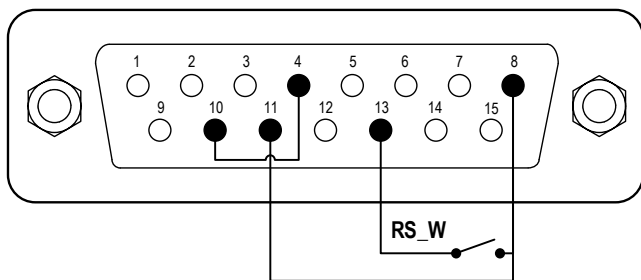

Figure 15. Logic Level Control with Internal 12V Power Source
- 1) Switch the power off. Wire the DB15 connector as shown on Figure 15 or Figure 16, and connect it to the DB15 port on the rear of the pump.